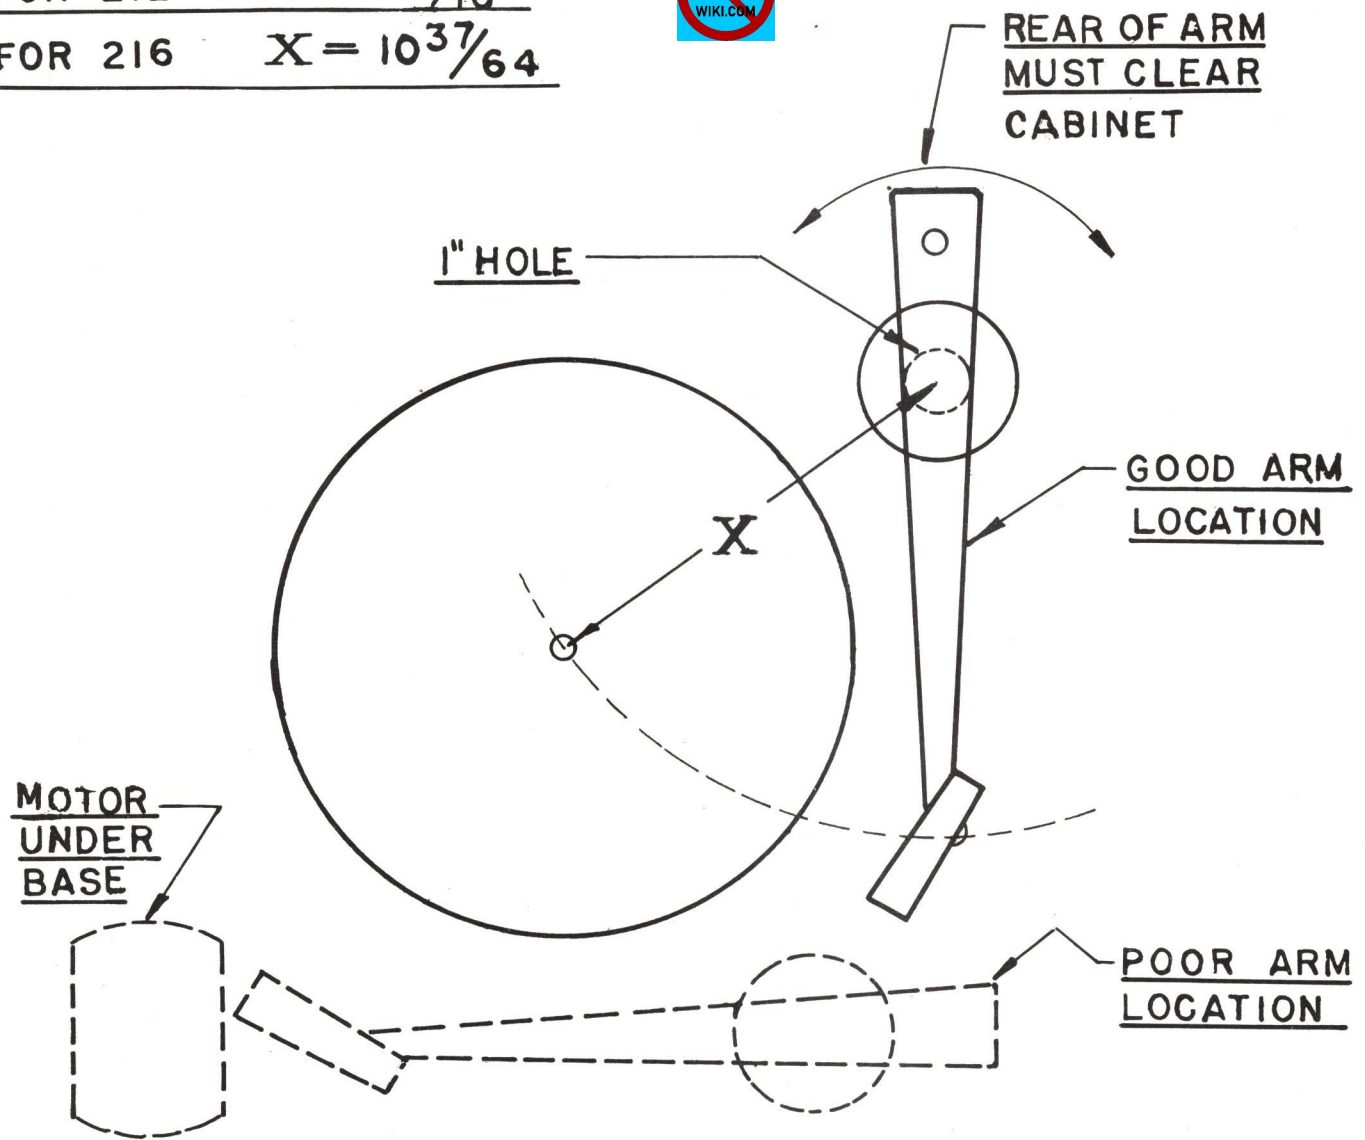

FIG. 3
- a. Place arm on turntable to get approximate position. Note where cartridge (front end of arm) will be and check turntable instruction sheet for optimum cartridge locations. (Some turntable manufacturers advise best cartridge-arm locations to avoid having the sensitive area of the cartridge near the turntable magnetic motor field.) See Fig. 3.